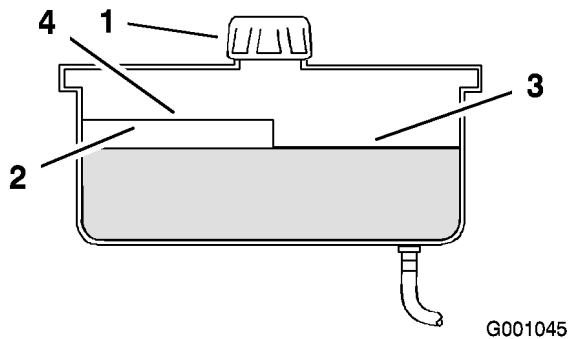

Figure 70
2. Clean the area around filler neck of hydraulic tank (Figure 70).
3. Remove the cap from the filler neck. Look inside to check if there is fluid in the reservoir (Figure 70).
Note: The fluid level should be to the top of the hot level of the baffle, when the fluid is hot (Figure 70).